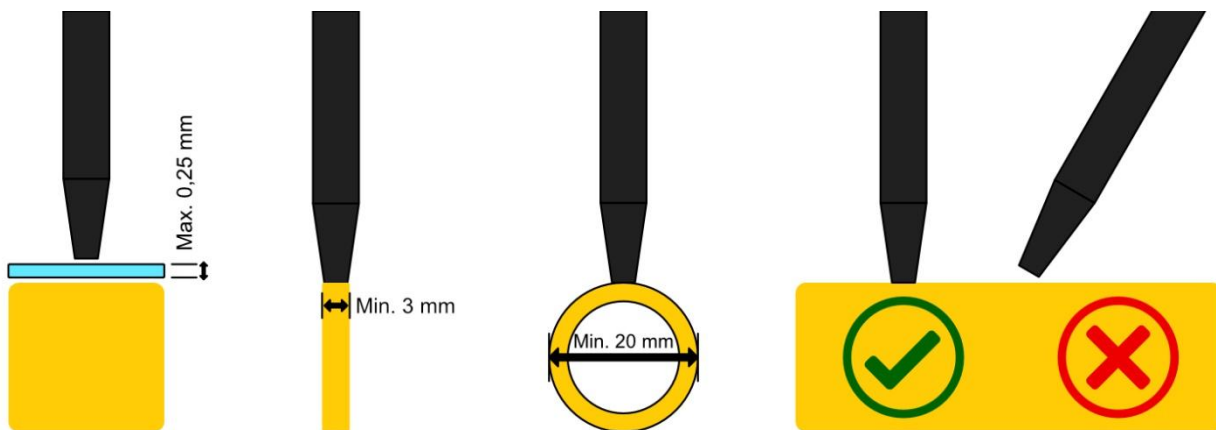

Figure 2 – Advice on the positioning of the probe tip.
To determine the conductivity of your test object, hold the tip of the pen perpendicular to the surface of the test object (see Figure 2). **Please do not place the sensor tip too forcefully on the surface or on sharp-edged mintages, as this may damage or destroy the sensitive coil in the tip. A gentle pressure, like when writing with a pen, is totally sufficient.** The device performs two measurements per second. Thus, the resulting conductivity value is continuously output on the display with an accuracy of one decimal place (3). Due to the measuring intervals and the user-related change in the position of the probe tip during the measurement, it is possible that the output conductivity value does not remain constant.